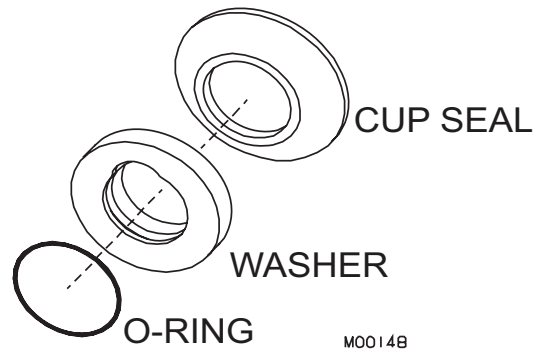

Figure 7-3 Shaft Seal
7. Remove the handle pin (9), handle (10&12), plunger (4&8) and nozzle (13) from the dispense head.
8. Remove O-rings (3) from the dispense head and O-rings (2) from the plungers (4&8).
9. Remove the cup seal (figure 7-3) and O-ring from the plastic washer on the shaft seal assembly.